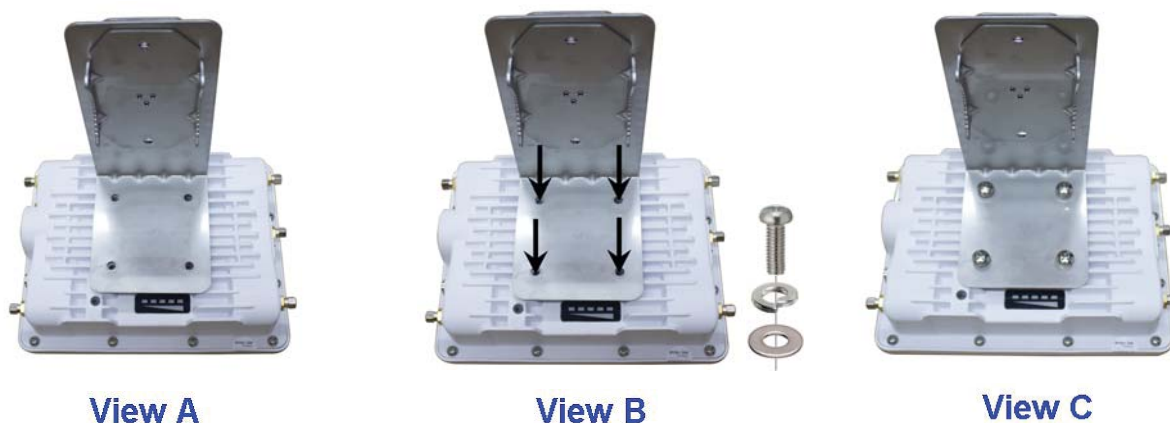

Figure 4-2 Assemble the Mounting Hardware
2. Insert the screws and washers into the four mounting holes as shown in Figure 4-2 view (B).
3. Tighten the screws to the required torque. The last image in Figure 4-2 view (C) shows the fully assembled mounting hardware attached to the device.